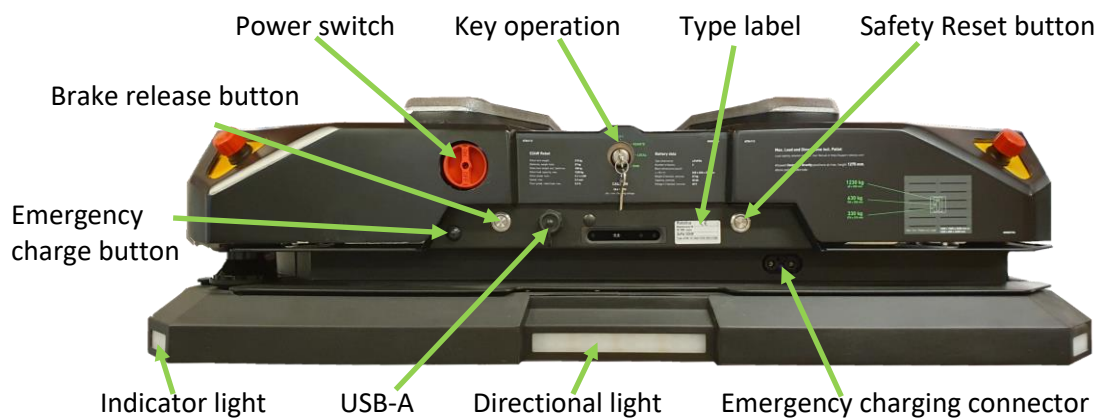
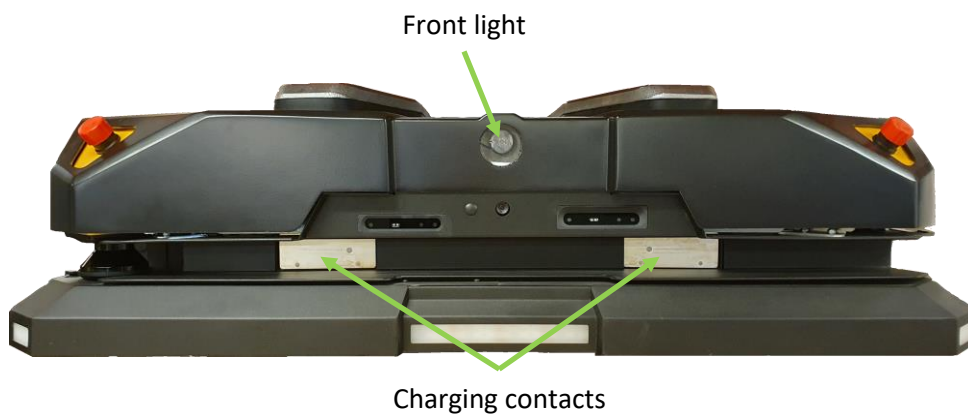

Figure 6 GoPal E24W rear view
Figure 7 GoPal E24W front view
The Safety Reset button (see *Figure 6*) is located at the rear of GoPal. If the mechanical bumper or any of the emergency stop buttons have been triggered, this button must be pressed to reset the safety system of the robot. After holding the Safety Reset button for a minimum of 1 second, GoPal will emit an audible warning signal and flash a light to indicate its active state.
The Brake Release button (see *Figure 6*) is located at the rear of GoPal. To release the robot's brakes, press this button while the key switch is in the "Emg" position. The brakes will remain released as long as the button is pressed, allowing the robot to be moved away from an object if its bumper has been engaged.
The key switch, located at the rear of the robot (see *Figure 6*) is used to control GoPal. The key switch has several positions:
The USB-A interface, located at the robot's rear (see *Figure 6*), is used for maintenance and service activities and configuration settings.
The automatic battery charging connector points are located at the front of GoPal (see *Figure 7*). These connectors are used when GoPal is docked at a Charging Station for charging. An emergency charge connector is located at the rear of GoPal (see *Figure 6*). This connector is typically not used but can be employed if an error prevents GoPal from driving into a Charging Station. The robot will not drive while emergency charging is in progress.
The Emergency Charge Button is located at the rear of the robot (see *Figure 6*). Use this button for emergency charging when the robot's battery is critically low and it is unable to charge, even when connected to charging power.
- Connect the provided DC power cable to the robot's emergency charge connector. (see *Figure 6*)
The GoPal robot is equipped with operating lights (see *Figure 6*) that function in the same way as those on a car. GoPal has white lights at the front, red braking lights at the rear, and orange corner lights that function as indicators when turning.
Additionally, GoPal has a powerful green light installed at the front (see *Figure 7*) illuminating the floor several meters in front of the robot. The purpose of this light is to alert other traffic to an approaching GoPal robot.